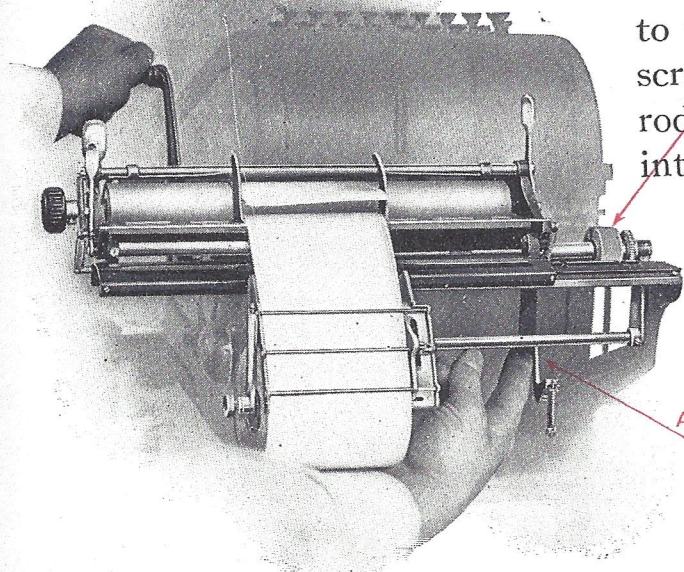

Fig. 70—Unhook small arm
an inch of the full stroke where it will remain because the full stroke has not been taken, press the handle backward and remove it, then with your finger unhook the small arm (A) in the lower right-hand corner of the back of the machine—Fig. 70. Then loosen the two outside metal feed rollers (B) which drive the platen, and move them toward the center on their shaft, after which the case may be unlocked, lifted about $\frac{1}{4}$ inch at the front, pushed $\frac{1}{4}$ inch toward the back and lifted vertically off the machine.